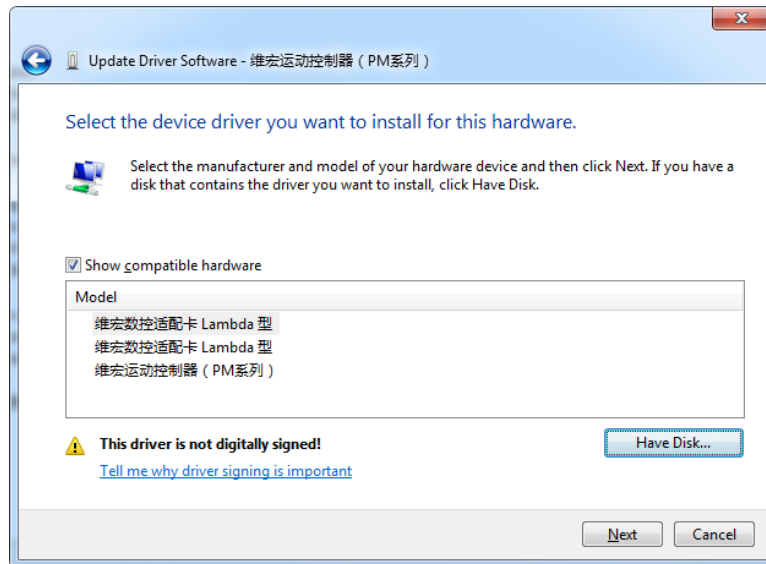
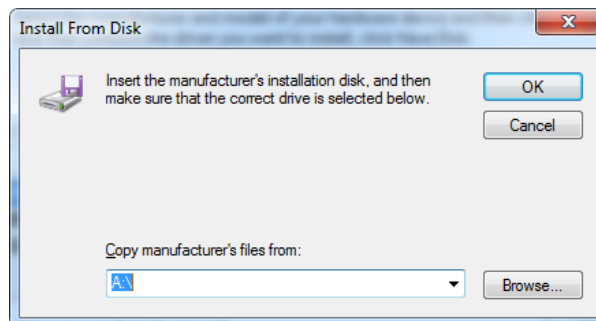

Fig. 1-5 Find driver location-1
Fig. 1-6 Find driver location-2
4) As shown in Fig. 1-5, click [Have Disk...], and then a new window pops up as shown in Fig. 1-6.